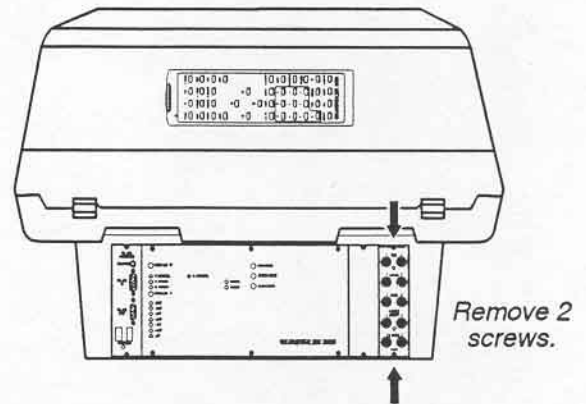

Figure 5-12. Side Panel Removal
- Remove the 2 securing screws which secure the input module to the frame as shown in Figure 5-12.